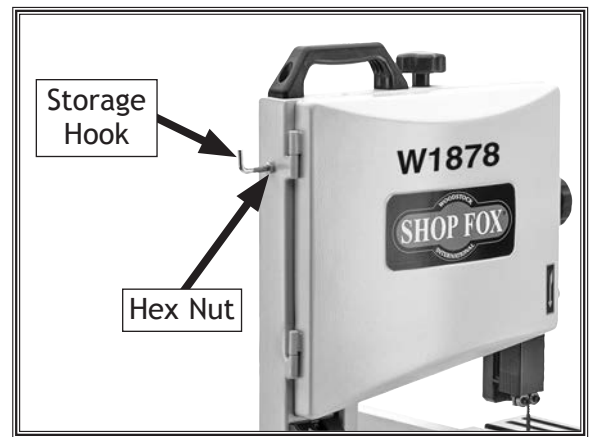

Figure 17. Storage hook installed.
12. Thread storage hook (see **Figure 17**) into frame, and secure position by tightening hex.